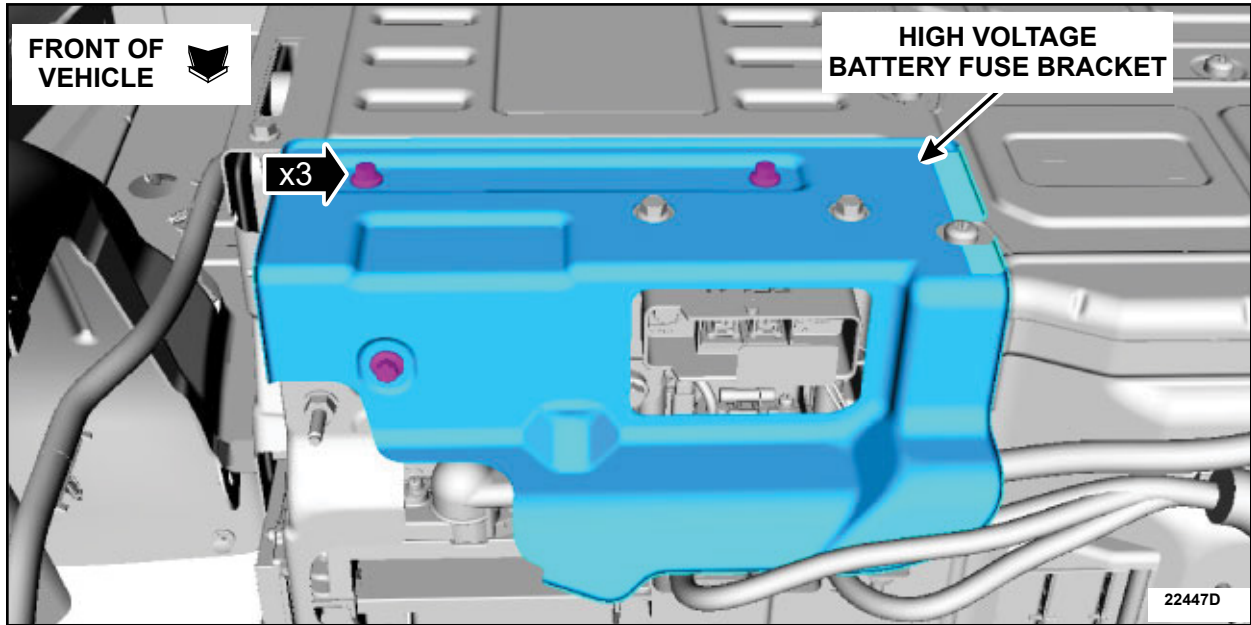

FIGURE 4
7. Remove the retainers and the high voltage battery fuse bracket. See Figure 4.